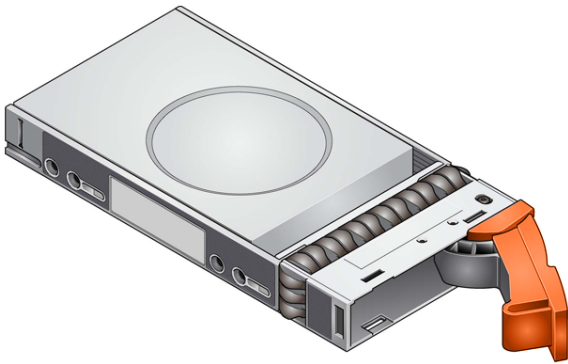

Figure 6-7 - Installing a Drive Carrier Module (1)
1. Release the drive carrier handle, by depressing the latch in the handle (see Figure 6-7).